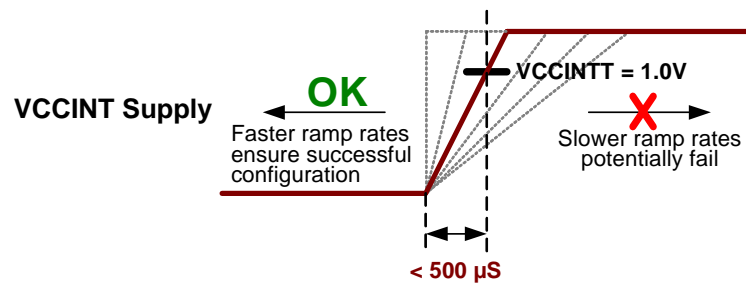

Figure 4: Use Faster VCCINT Ramp Rate if VCCINT is Last Supply
**OPTION 3:** In a system that requires that the VCCINT supply is last in the power-up sequence, ensure that it ramps to its maximum POR threshold voltage ( $V_{CCINTT} = 1.0V$ ) in less than < 500  $\mu$ S, as shown in Figure 4.